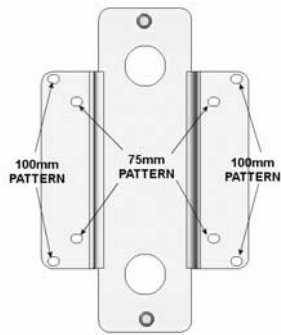
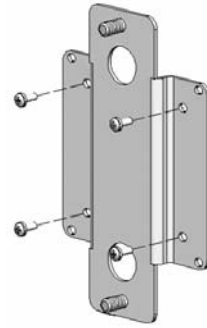
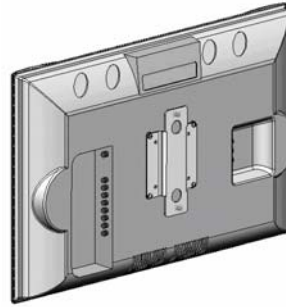
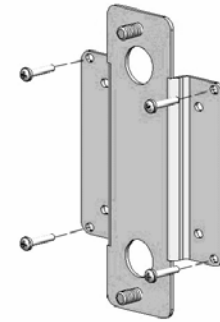

Figure 2
Figure 3
Figure 4
Figure 5
1. For displays with a flat mounting surface, place adapter bracket over four mounting holes and secure using four M4 X 12mm PHCS screws (75mm see Figure 2, Figure 3 and Figure 4) (100 mm see Figure 2 and Figure 5).